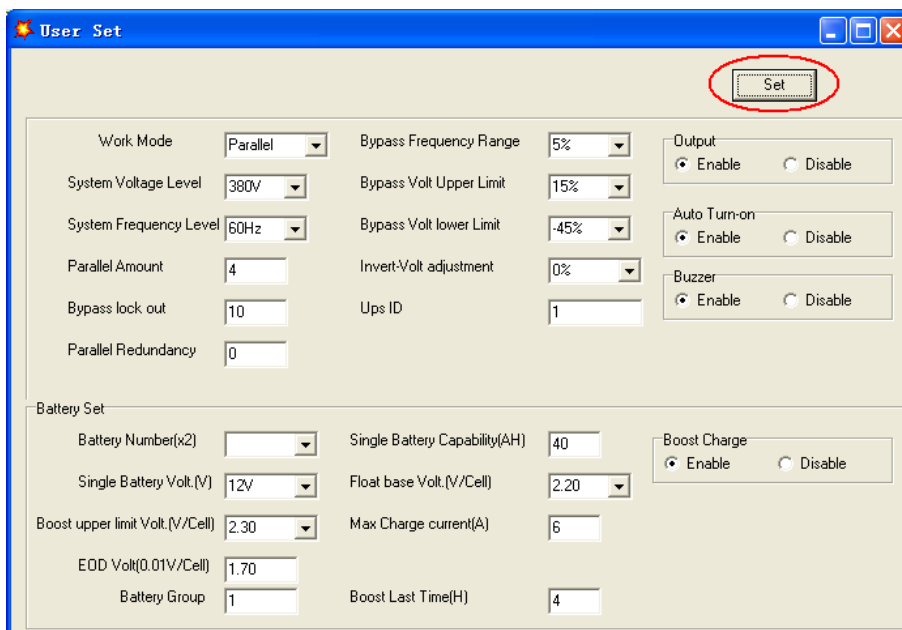

Fig. 5-12 User set window
3. Click “Set” at “User Set” window (Fig. 5-12).